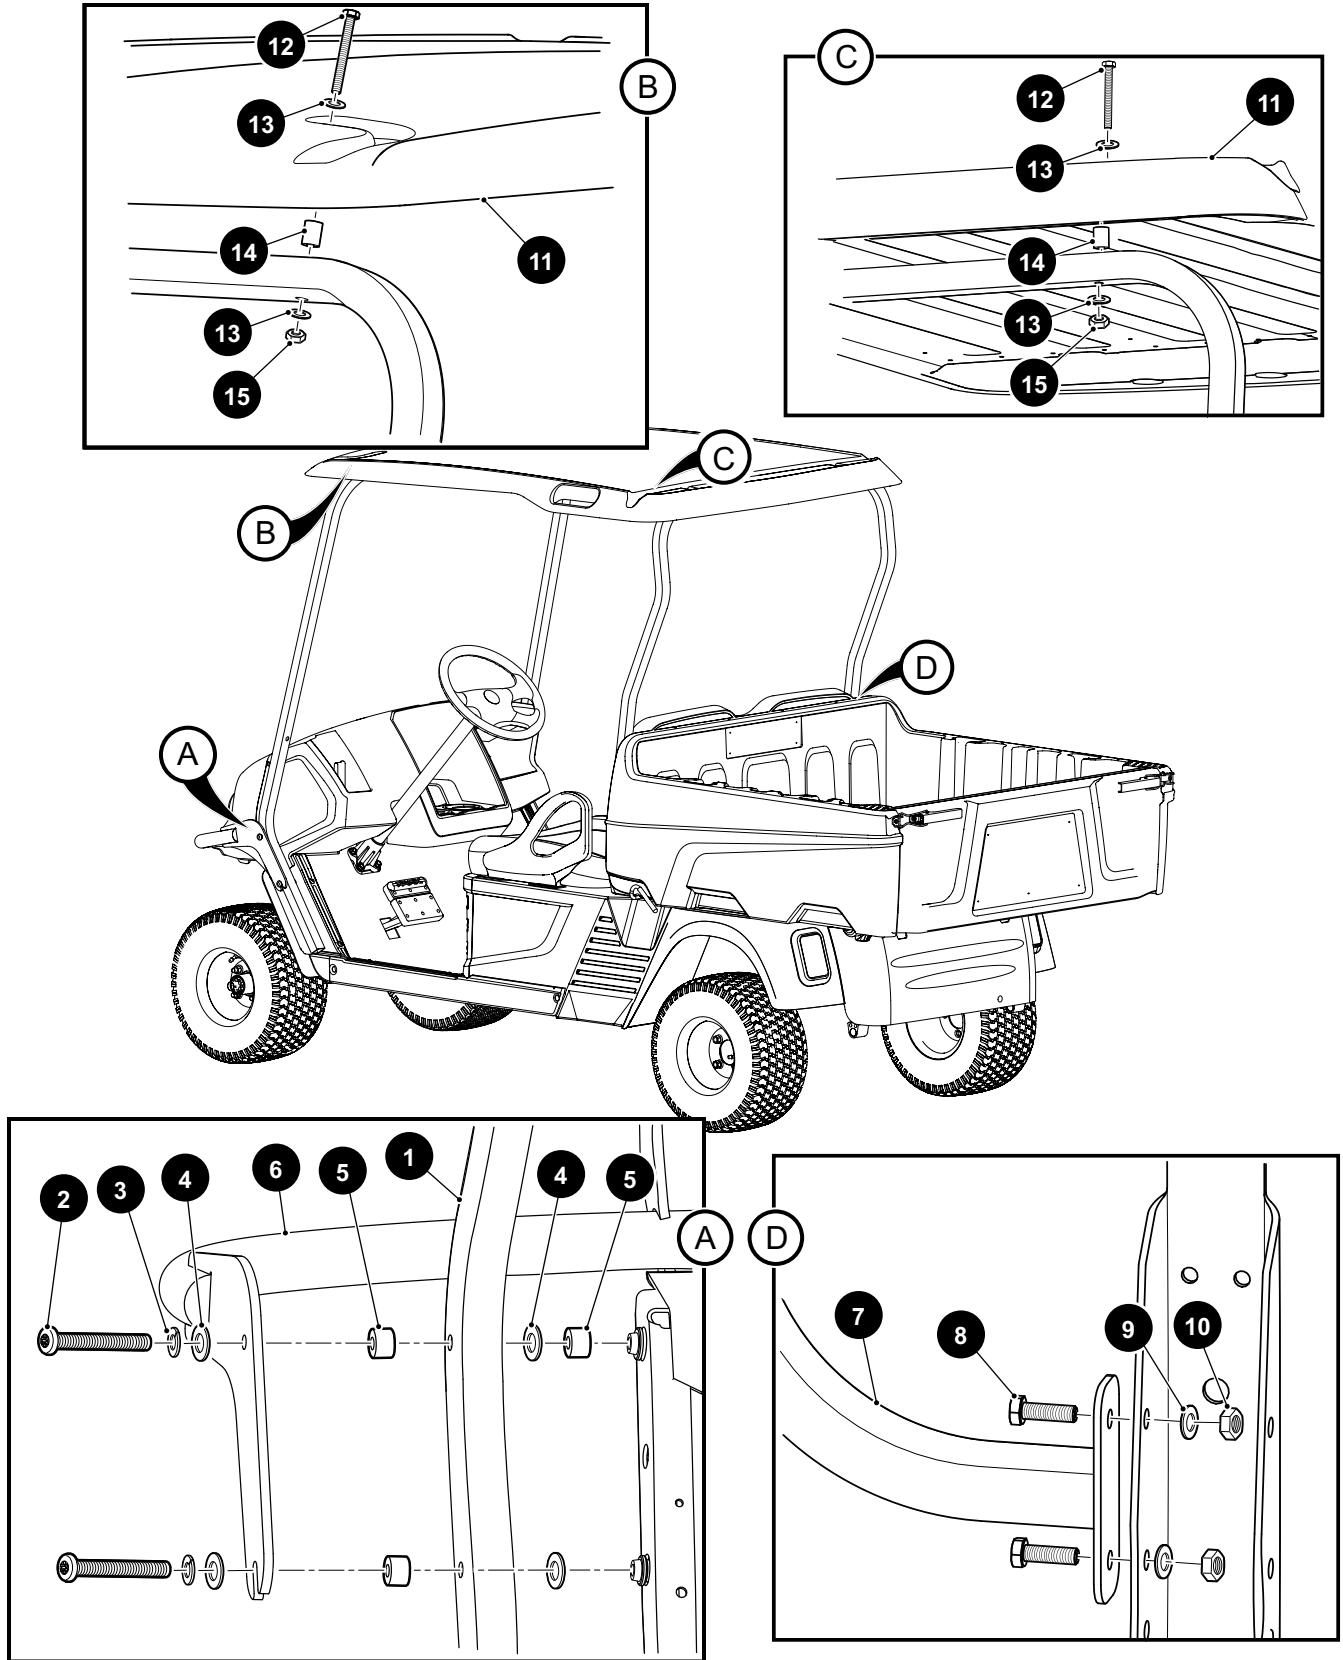

Figure 1 Canopy Top
1. At driver side of vehicle, align the holes in the rear strut (7) with the holes in the seat back support bracket. (See Detail D) (Figure 1).
2. Insert bolt (8) through the rear strut and seat back support bracket.
3. Secure with flat washer (9) and lock nut (10) on the inside of seat support bracket (Figure 1). *Finger tighten hardware to allow for adjustment.*